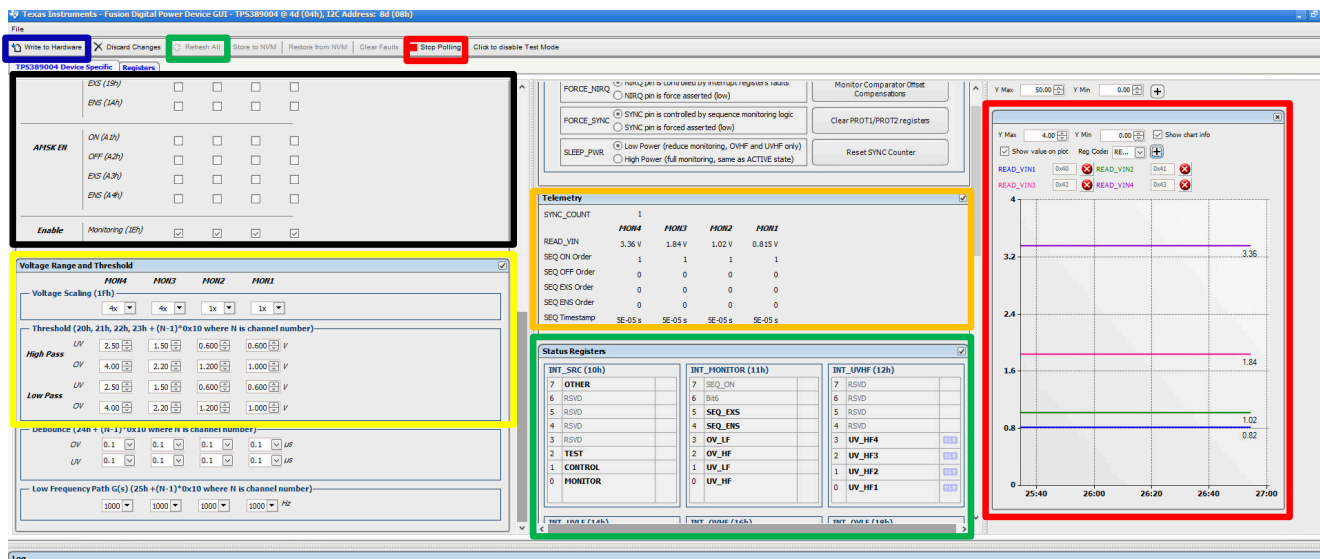

Figure 4-17. TPS389006Q1EVM GUI Setup for Monitoring Four (4) Voltage Supply Rails
9. Scroll to the bottom of the **Interrupt Enable** sub-window and enable all four monitoring inputs by clicking the empty boxes. The GUI screenshot, Figure 4-17 below, shows all the monitoring inputs being selected in the highlighted "black-box".
10. In the **Voltage Range and Theshold** sub-window, enter the undervoltage (UV) and overvoltage (OV) threshold values for the monitoring inputs. One thing to note, any monitoring inputs that are higher than 1.5 V needs to select "4x" in the **Voltage Scaling (1Fh)** field. The GUI screenshot below, highlighted by a "yellow-box", shows what has been described above.
14. Steps 8 through 13 refers to Figure 4-17 below.